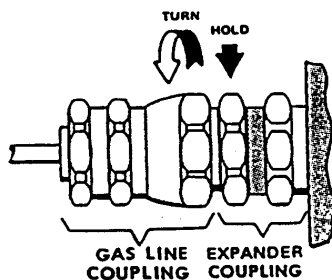

Figure 16 Break the Gas Line Connection from the Cold Head
1. Always use two wrenches. Use one wrench to hold the cold head coupling. Use the second wrench on the gas line coupling nut to break the connection. See Figure 16.